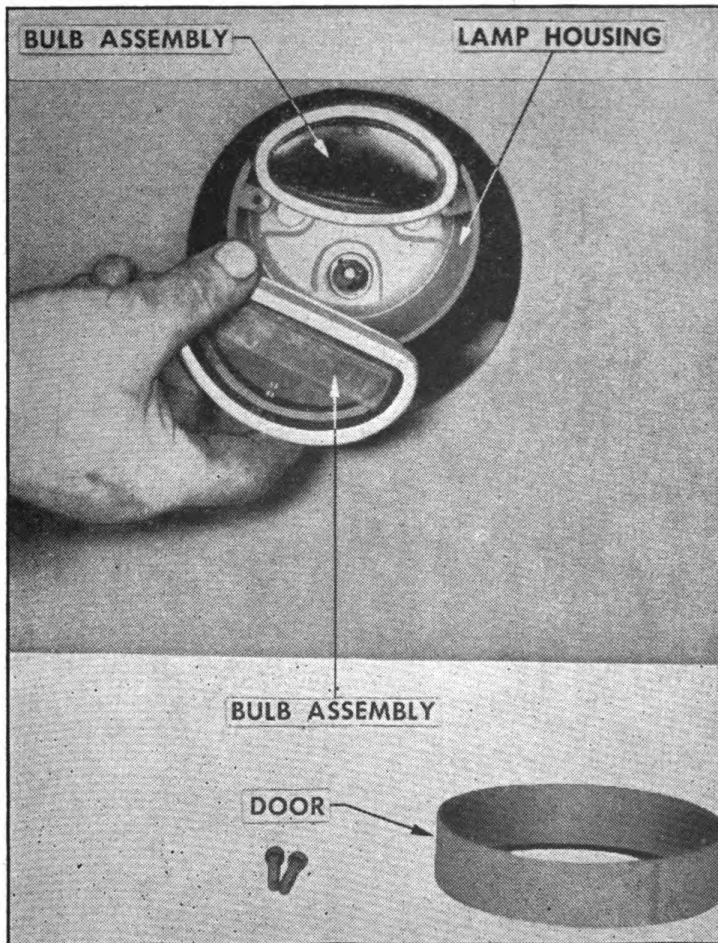

FIGURE 53. REPLACING BULB UNIT.
4. REPLACING BULB UNIT (Fig. 53).—*a.* Remove the two screws from lamp door.